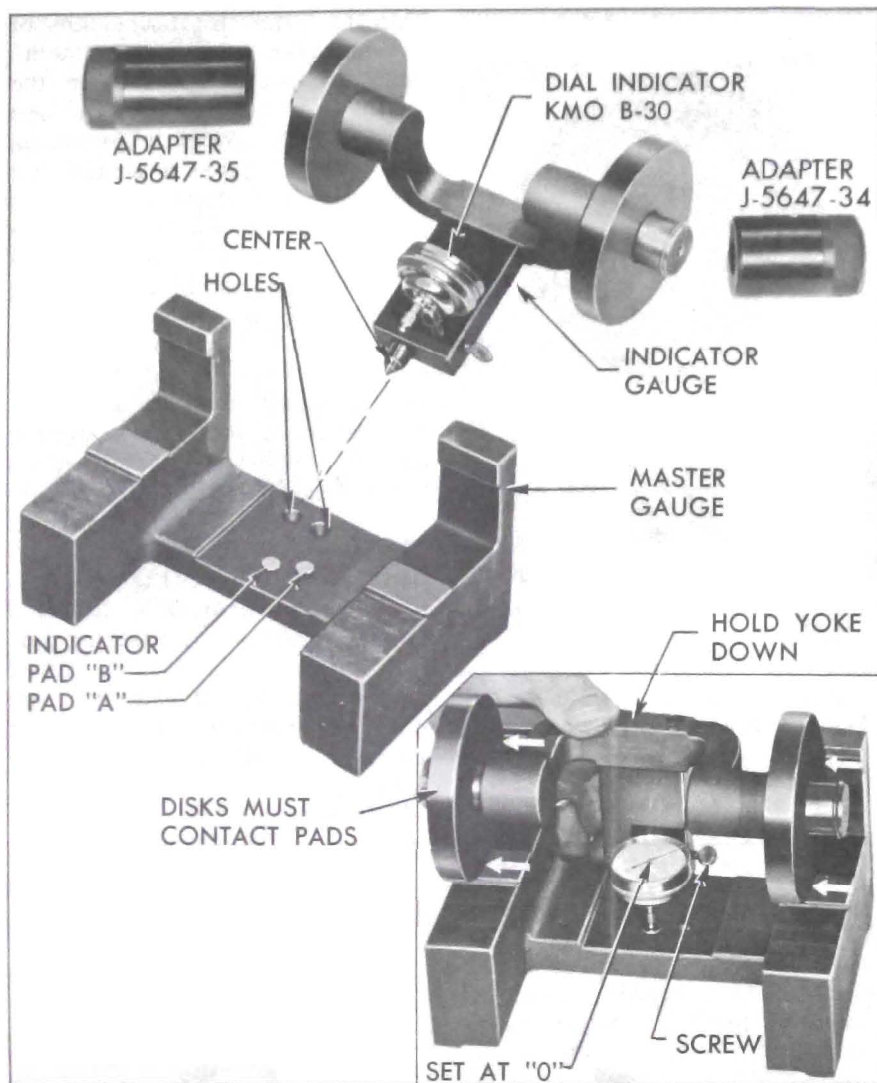

Figure 6-28—Pinion Setting Gauge J-5647 and Adapters
The dial indicator type Pinion Setting Gauge J-5647 is used with adapters to provide a fast and accurate method of checking pinion location; it gives a direct reading on a dial indicator that does not require computation or reference tables. See Figure 6-28.
Pinion Setting Gauge J-5647 consists of a master gauge and an indicator gauge upon which a dial indicator is mounted. Adapter Set J-5647-17 is not used when zeroing the gauge, but is used in place of the discs when checking the pinion setting. See Figure 6-28.
2. Install the discs on the "indicator gauge" and install the small contact button on the stem of the dial indicator. Mount the dial indicator on the indicator gauge. See Figure 6-28.